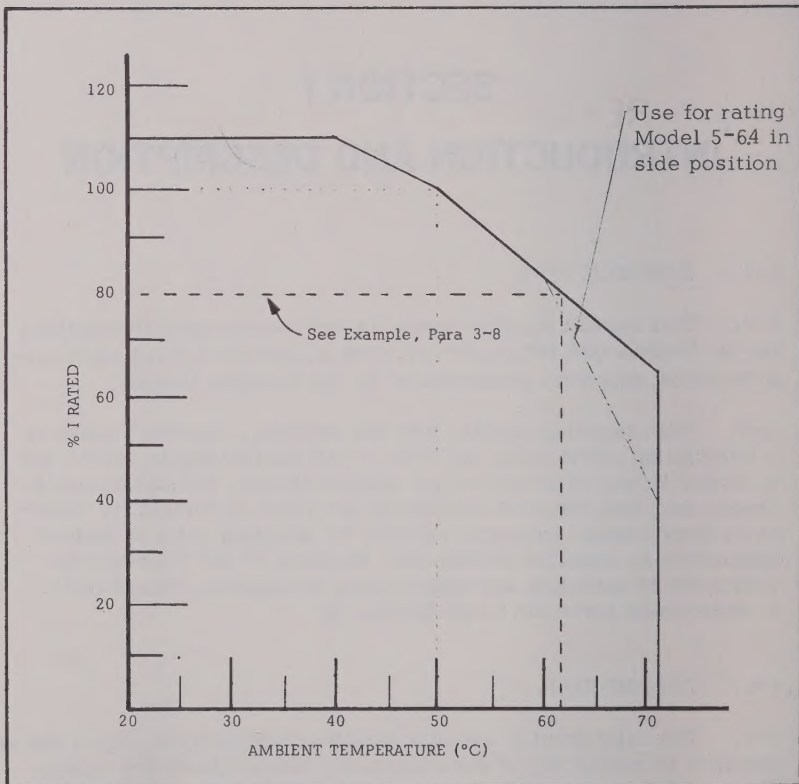

Figure 1-1. Current Derating
(1) At nominal input and full rated output
(2) See Figure 1-1 for current derating characteristics